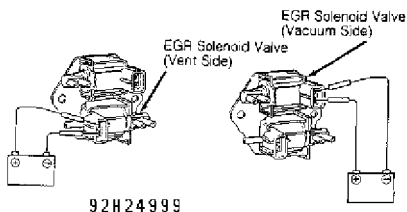

Fig. 67: Testing EGR Solenoid Valves (MX-3 DOHC Shown; MX-6 2.5L, 626 2.5L & 929 Similar)
1) Disconnect vacuum hoses. Blow air through vacuum hose (vacuum side). Ensure air does not flow. Disconnect EGR solenoid valve (vacuum side) electrical connector. Apply 12 volts and a ground to solenoid valve (vacuum side) terminals. See Fig. 67. Blow air through vacuum hose and ensure air flows.
2) Blow air through vacuum hose (vent side). Ensure air flows. Disconnect EGR solenoid valve (vent side) electrical connector. Apply 12 volts and a ground to solenoid valve (vent side) terminals. See Fig. 67. Blow air through vacuum hose and ensure air does not flow. Replace solenoid valves as necessary.